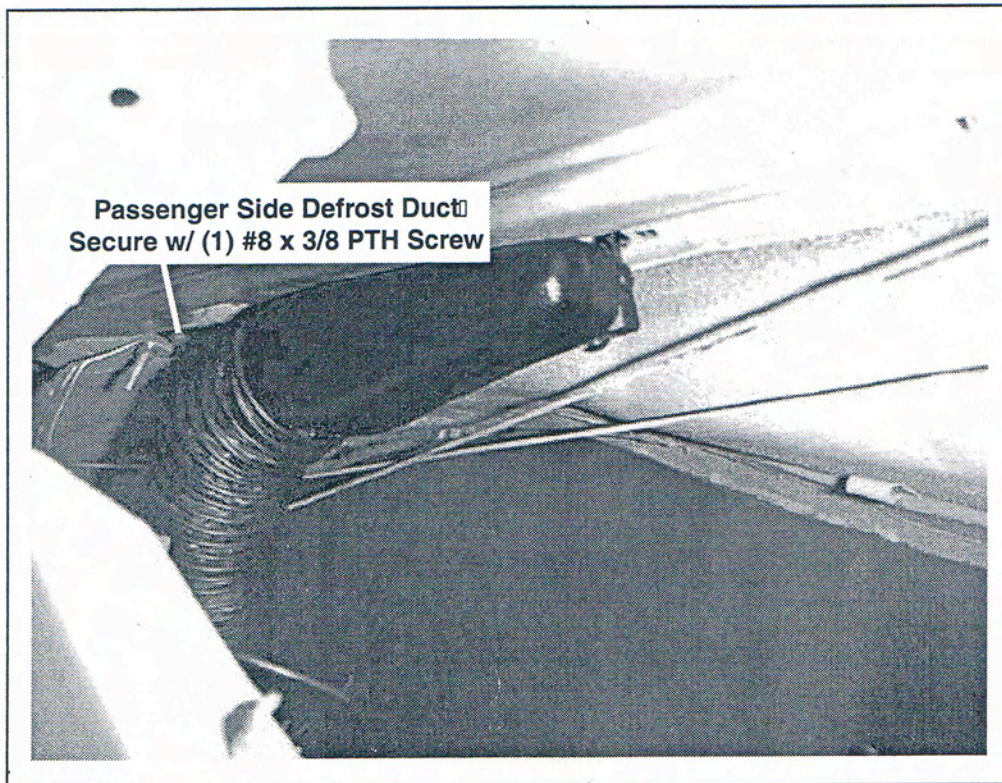

FIGURE 4
20. Install defrost ducts, secure with hardware provided. (FIGURE 4 & 5)